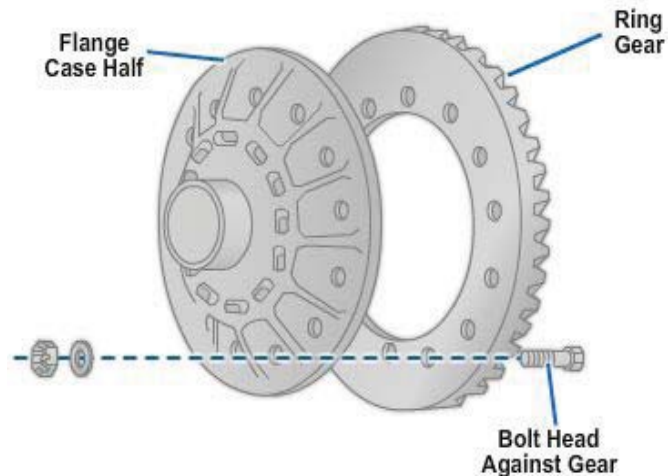

Figure 8-83 - Crown ring gear installation to flange case half.
4. Install the fasteners that clamp the crown gear to the flange case half. Install the bolts from the gear side of the assembly. Bolt heads must be against the crown (Figure 8-83).